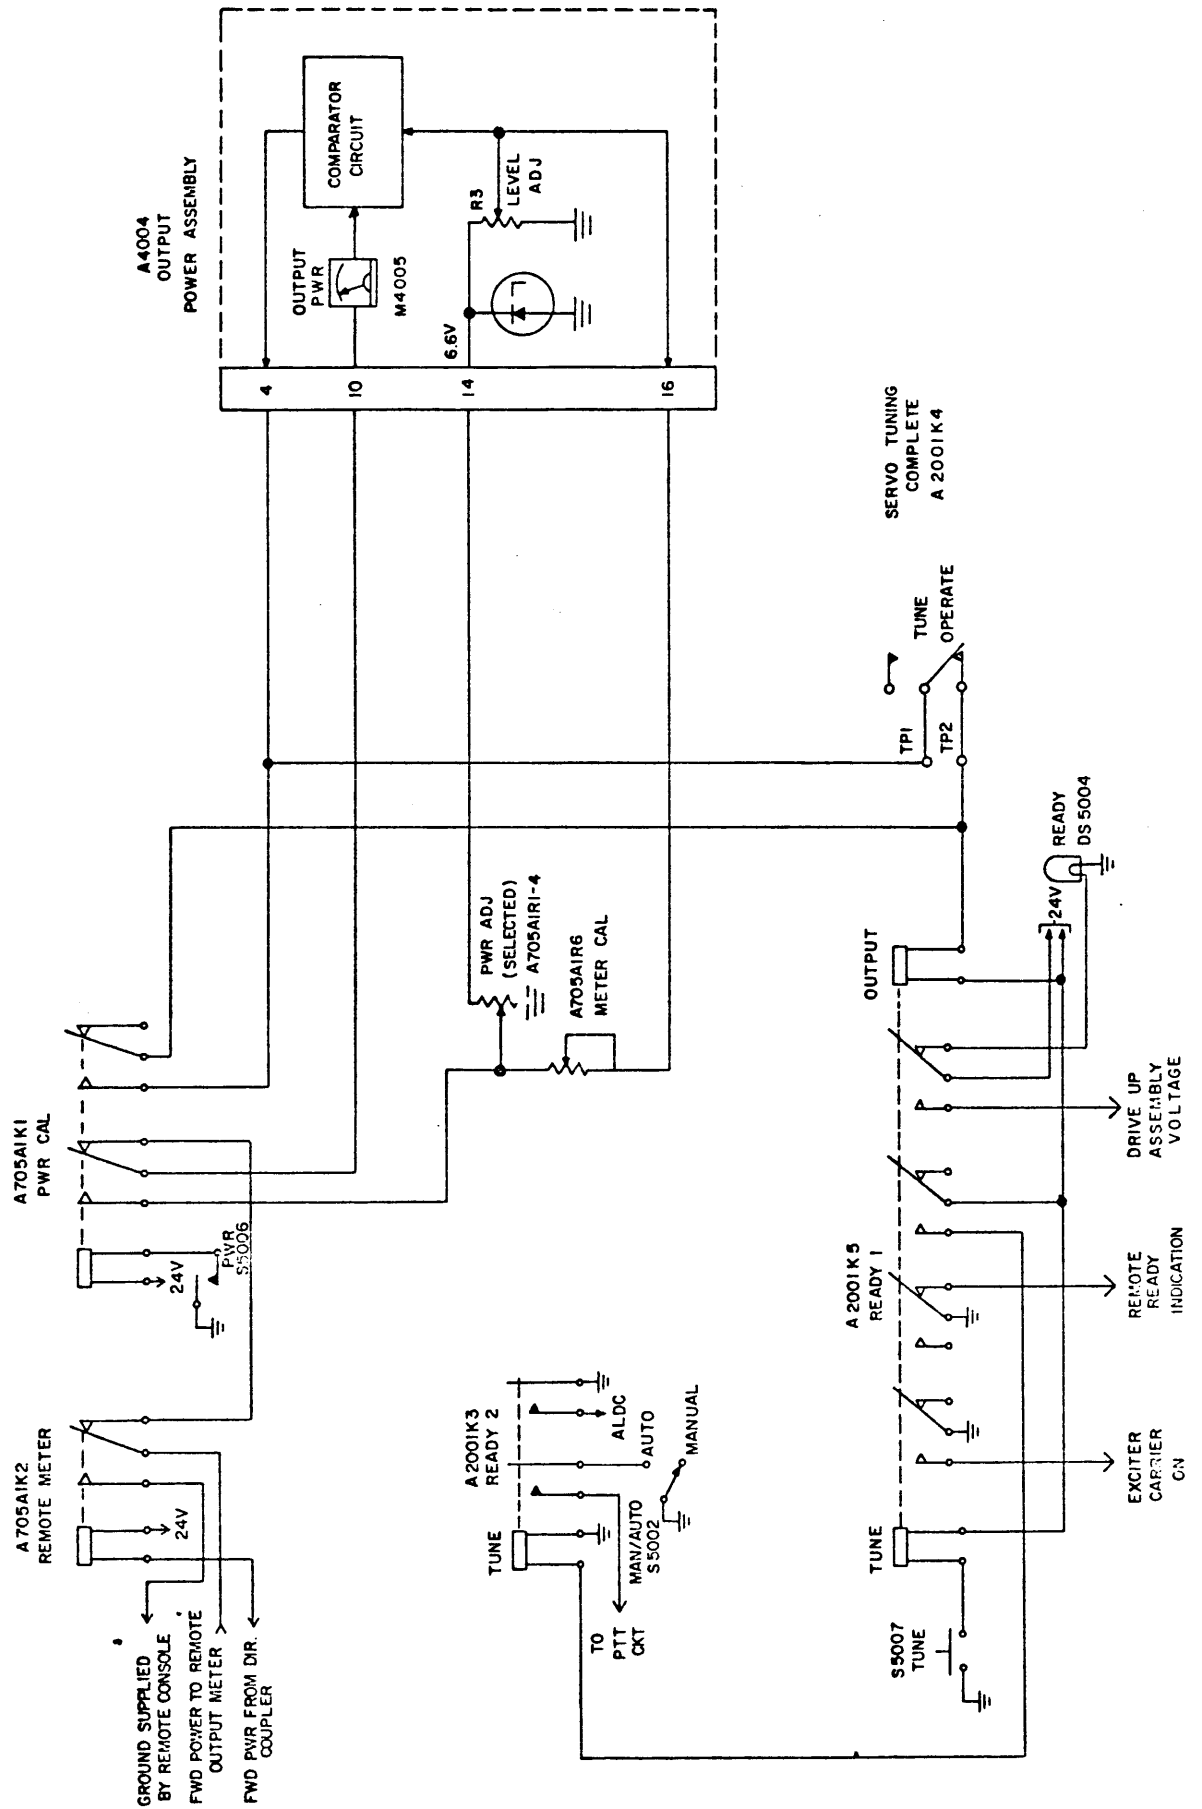

Figure 4-6. Functional Diagram, Power Level and Output Control
h. TUNING COMPLETE AND OUTPUT LEVEL. (See figures 4-6, 4-10, 7-1, 7-2, 7-3, 7-4, and 7-6) When the load capacitor A703C1 completes tuning the 28 vdc load servo on voltage appearing at pin 3 of the PA load assembly A703, is routed through closed sets of contacts on the now deenergized motor control relays A703A2K1 and A703A2K2, and appears at pin L of the load assembly. The voltage is then routed to pin 7 of the tuning control assembly A2001 and applied through a one-half second time delay A2001CR3 to latch the servo tuning complete relay A2001K4 in the operate mode. Contacts 14 and 15 of the servo tuning complete relay open, removing the IPA cathode input to pin 1 of the drive-up comparator assembly A1005A1. Contacts 8 and 9 open, removing a ground that was applied to E1106, and is now a source of +3 vdc. Contacts 12 and 13 close, providing a ground to energize the servo off relay K2001. The servo off relay then removes phases 1 and 2 from the servo amplifiers. This causes the IPA servo amplifier search relay A1002A1K1 to deenergize, removing the closure between pins 23 and 25 of the servo amplifier and closing pins 23 and 24. This disconnects the tune level voltage at pin 25 and connects the 3 vdc (from ungrounded E1106) to pins 24 and 23 of the servo amplifier which is then applied to pin 2 of the drive-up comparator assembly. With no input at pin 1, the drive-up comparator causes the drive-up motor B1301 to increase the drive applied to the transmitter, thereby increasing the r-f output. The 6 vdc is available at terminals of TB703 and pin 14 of the output power assembly A4004 and is routed to pin 13 of the remote power assembly A705. This voltage is then applied to one of four POWER ADJUST potentiometers A705A1R1 through R4 whichever is activated by a ground applied by the switch A705S1F. An adjustable value of this voltage is then applied to pin N of the remote power assembly and applied to terminal 4 of TB703 and pin 16 of the output power assembly as the fixed input to the comparator circuit. The r-f output of the transmitter continues to rise until the output level input at the comparator equals the fixed input level. Transistor A4004Q3 is forward biased and a ground appears at pin 4 of the output power assembly and terminal 7 of TB703. The ground is routed to pin F of the tuning control assembly A2001, through the now closed contacts 6 and 7 of the servo tuning complete relay A2001K4 and latches the ready 1 relay A2001K5 in the operate position. Contacts 6 and 5 open, removing the ground applied to pin T of the exciter connector J119 which originally activated the 100-mw level excitation. The 24 vdc at contact 15, applied from pin W of the tuning control assembly, is removed from contact 14 and the fault circuit and applied to contact 16 and is then routed to TB905 terminal 2 and the READY indicator DS5004. Contacts 11 and 12 open, removing 24 vdc from the coil of ready 2 relay A2001K3. With the ready 2 relay deenergized, contacts 6 and 7 open and remove the ground applied at pin 2 of the ALDC assembly A707. This prevented the ALDC voltage from limiting the output of the transmitter during the tuning sequence. Contacts 9 and 10 also open, thereby removing the ground provided by the MAN/AUTO switch S5002 to the push-to-talk circuit through the fault relay A2001K7 to pin 2 of the push-to-talk relay K1101. With the PTT relay deenergized, the transmitter is in the biased-off condition. With the ALDC
#### 4-9. AUTOMATIC POWER LEVEL (See figures 4-6,7-1,7-3,7-4 and 7-7)